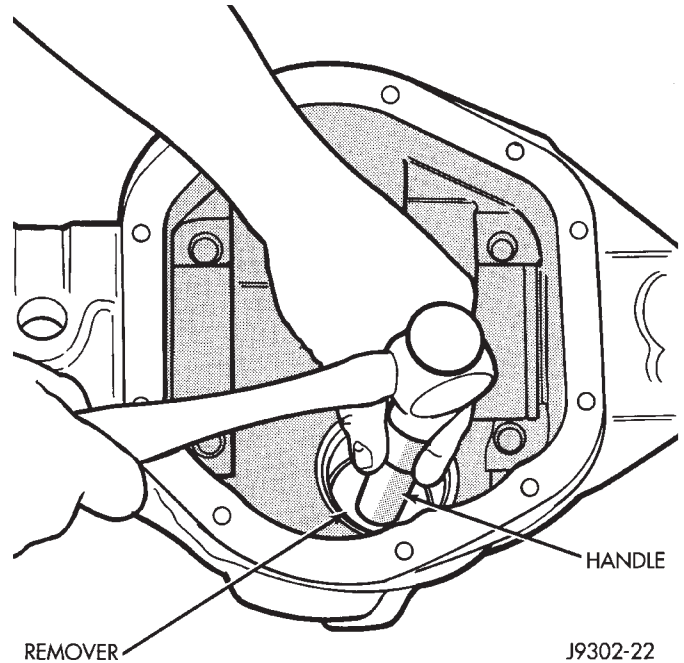

Fig. 48 Front Bearing Cup Removal
(9) Remove the front pinion bearing cup with Remover C-4345 and Handle C-4171 (Fig. 48).